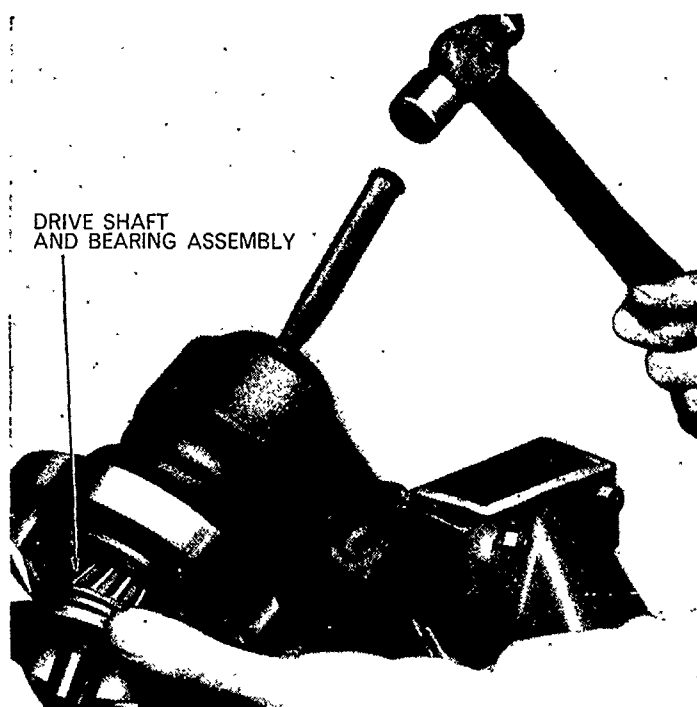
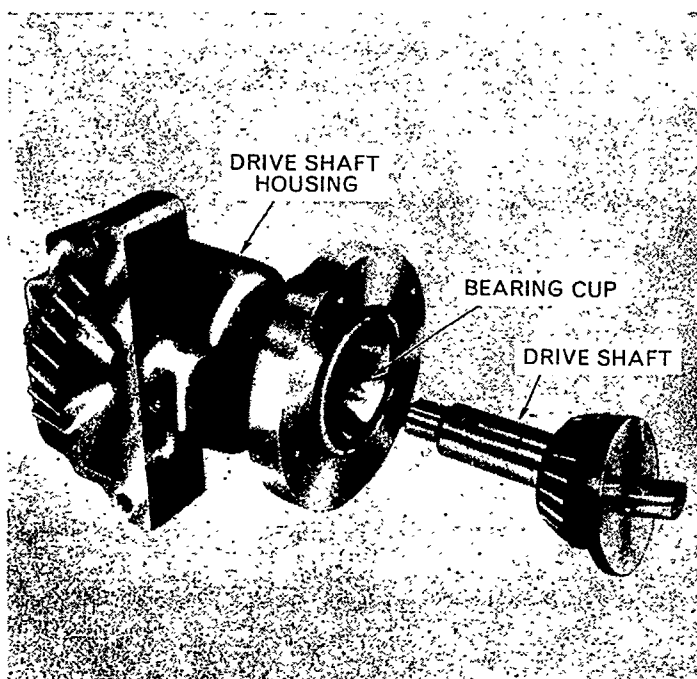

Figure 85
Figure 86
15. Remove the snap ring and plug from the end of the drive shaft housing. Discard 'O' ring. Remove nut and washer and, placing the drive gear housing in a vice as shown in Figure 85, use a long tapered punch, driving against the end of the threaded part of the shaft, to remove the shaft and bearing assembly, Figure 86.